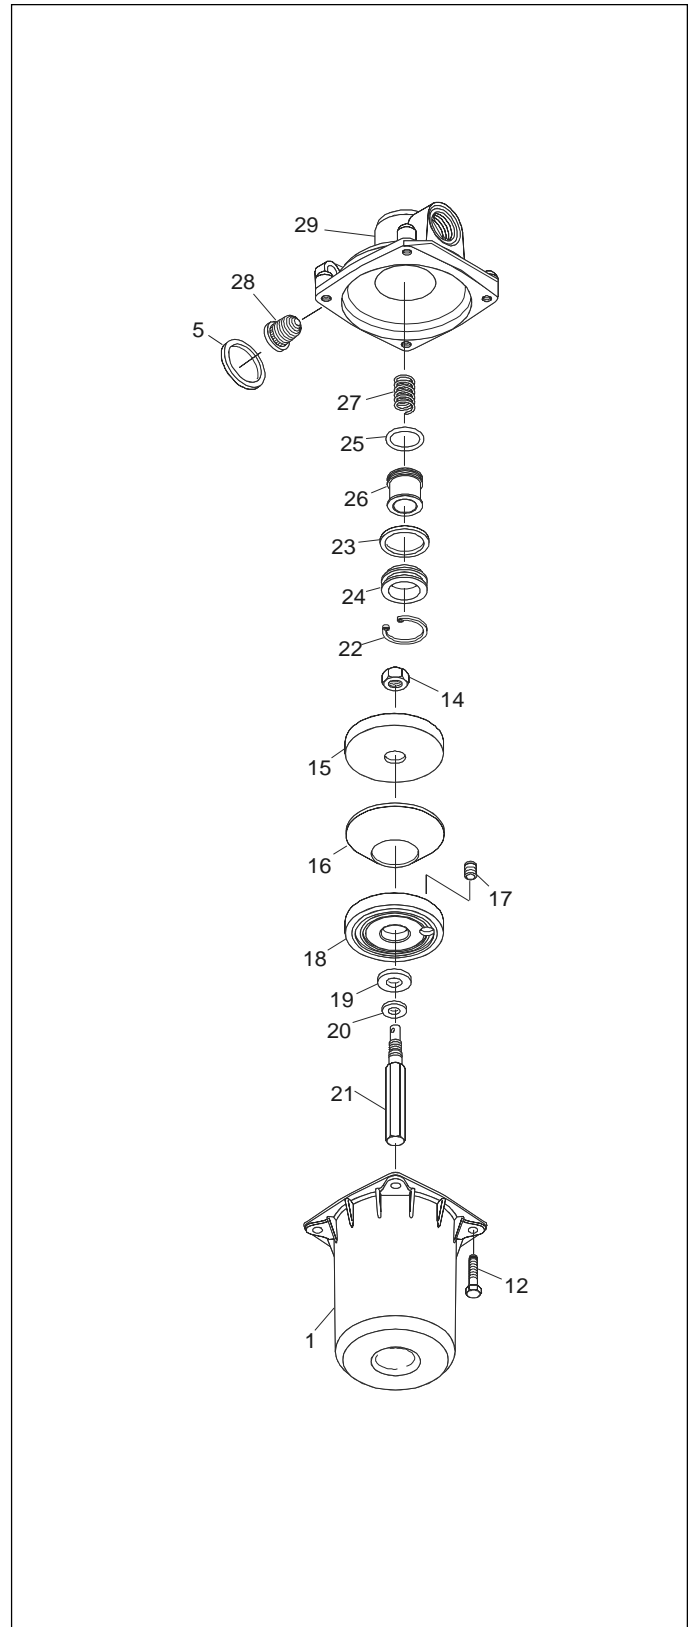

Figure 7 - #8 Vent Valve Portion - Exploded View
(Figure 7)
11.2.5 REMAINING PARTS (Figure 7)
⚠ 11.3 ASSEMBLY (Figure 7)